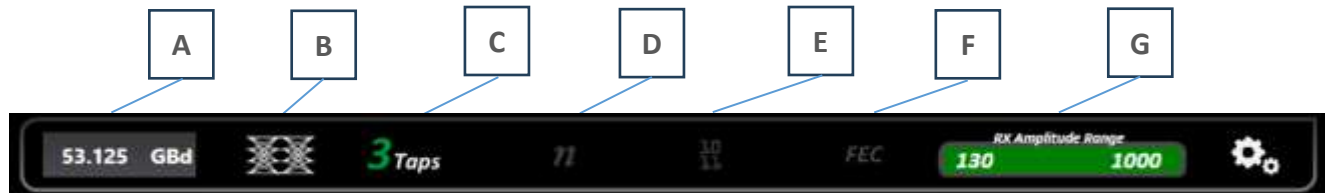

Figure 9: BERT Settings Tab
- Close button: disconnect from the BERT and close GUI instance (Figure 9).